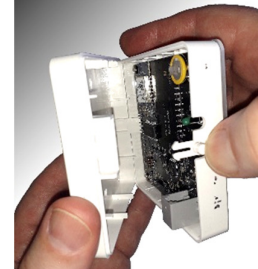

Fig 7
**Step 1** Press release button on side of Controller case and pull the back case away (see Fig 7).